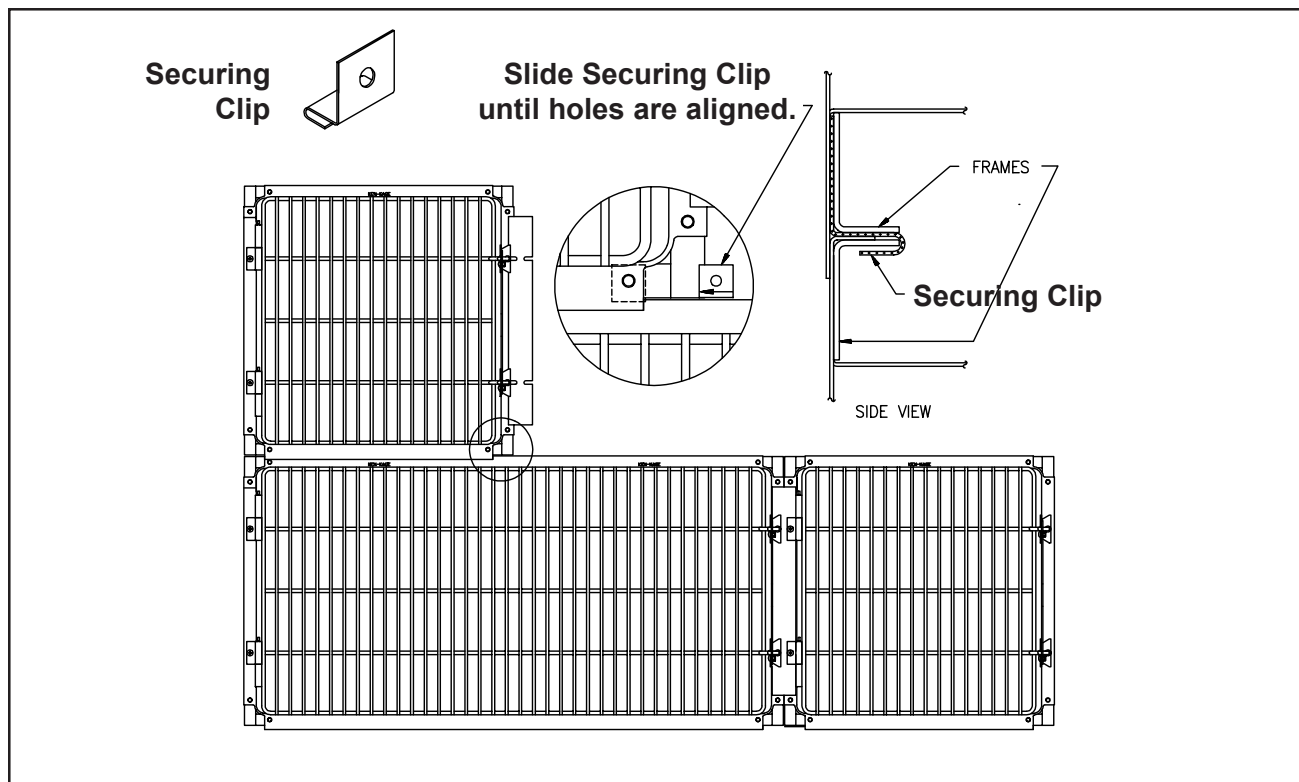

Figure 34. Mounting a Cage Using a Securing Clip
1. Remove the cap screw in the mounting holes in the lower cage (Figure 34)